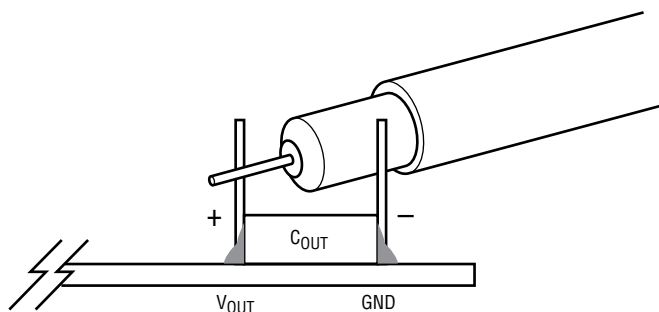

Figure 2. Measuring Output Voltage Ripple
**Note:** When measuring the output voltage ripple, care must be taken to avoid a long ground lead on the oscilloscope probe. Measure the input or output voltage ripple by touching the probe tip directly across the  $V_{IN}$  or  $V_{OUT}$  and GND terminals or directly across the relevant capacitor. See Figure 2 for proper scope probe technique.